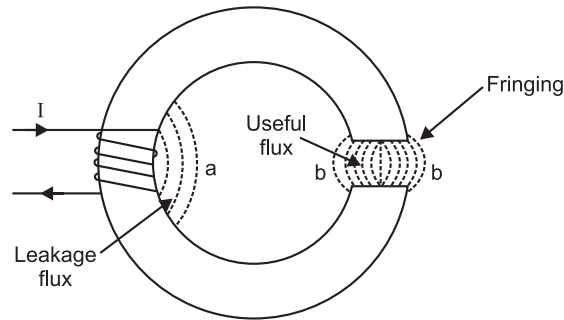

Fig. 8.7
In most of practical magnetic circuits, a large part of flux path is through a magnetic material and the remainder part of flux path is through air. The flux in the air gap is known as *useful flux* because it can be utilised for various useful purposes. Fig. 8.7 shows an iron ring wound with a coil and having a narrow air gap. The total flux produced by the coil does not pass through the air gap as some of it \*\*leaks through the air (path at 'a') surrounding the iron. These flux lines as at 'a' are called leakage flux.
**Fringing.** When crossing an air gap, magnetic lines of force tend to bulge out such as lines of force at  $bb$  in Fig. 8.7. It is because lines of force repel each other when passing through non-